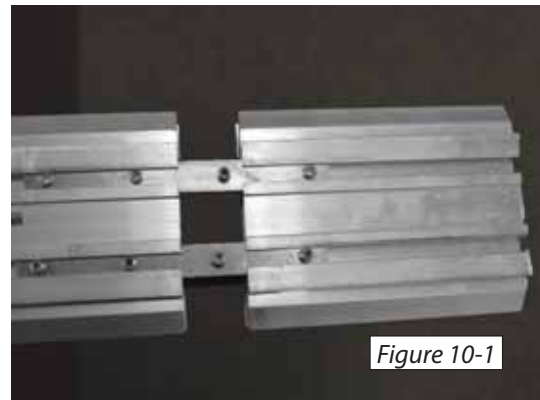

Figure 10-1
1. Each section of rail is shipped with the gear rack and the charging strips installed with a short piece of rail covering the protruding rail for protection. With the rail turned upside down, loosen the four (4) allen screws attaching the two sections of rail with the splice bars on the bottom of the protective section of rail. [Figure 10-1]
2. Pull the protective section apart from the rail. This can be cast away. [Figure 10-1]